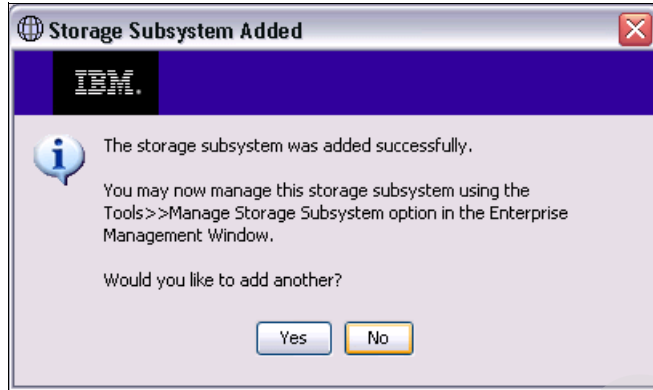

Figure 7-13 DS Storage Manager Storage Subsystem Added dialog
15. As we do not want to add another Storage System to the management domain we choose **No** in the Storage Subsystem Added confirmation dialog, as shown in Figure 7-13.